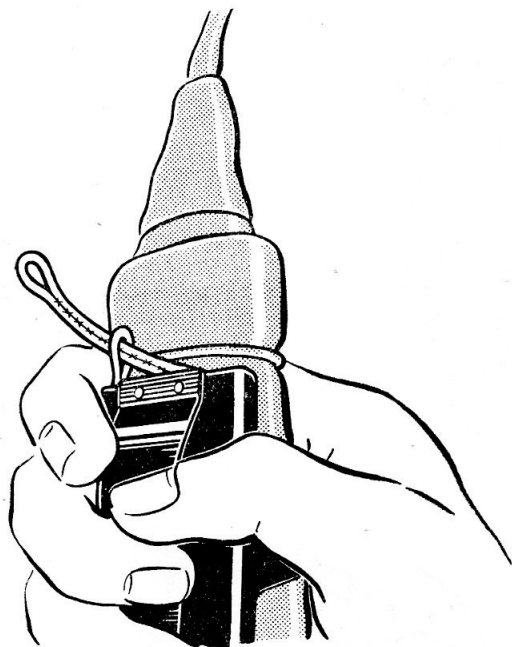

Fig. 9. Connecting the beacon to the battery switch pin—3rd stage
(4) Pass the longer end through the loop at the other end (fig. 9).